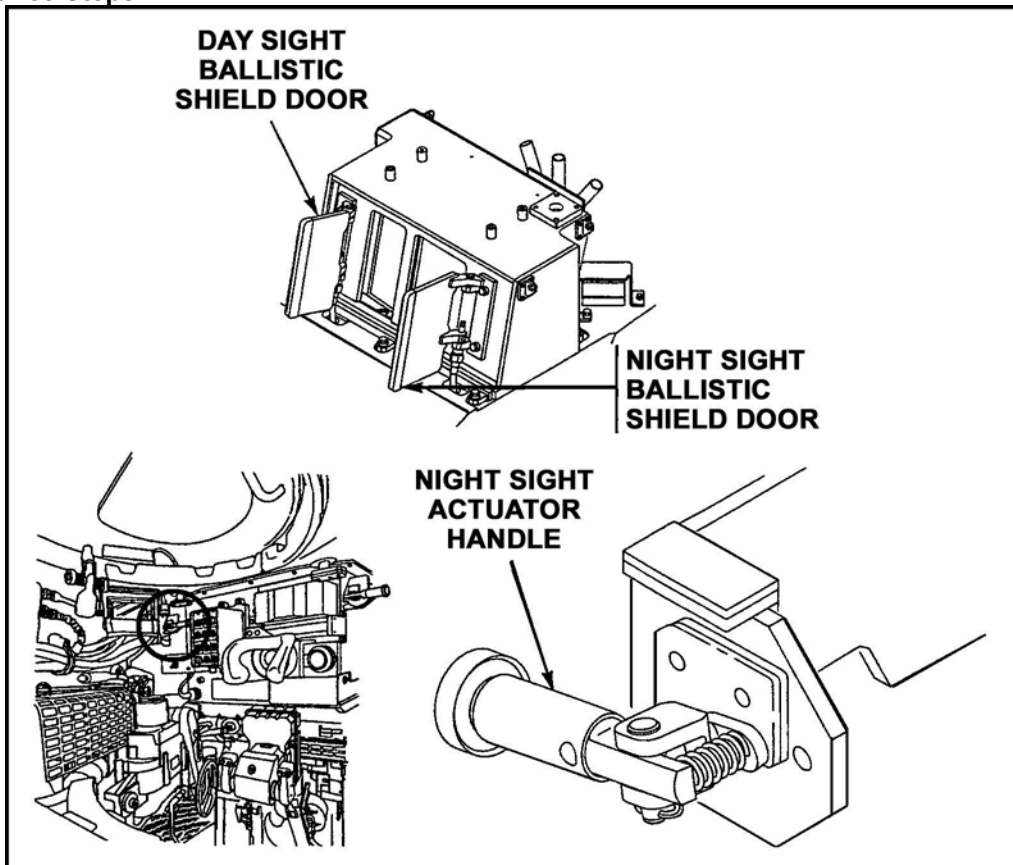

Figure 4. Ballistic shield doors.
- g. Open the ballistic sight cover doors (Figure 4).